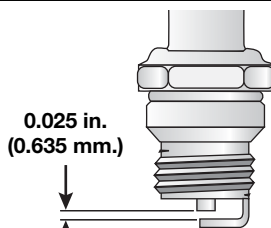

Fig. 41
3. Replace cracked, fouled or dirty spark plug. Set the air gap at **0.025 in. (0.635 mm)** using a feeler gauge (Fig. 41).